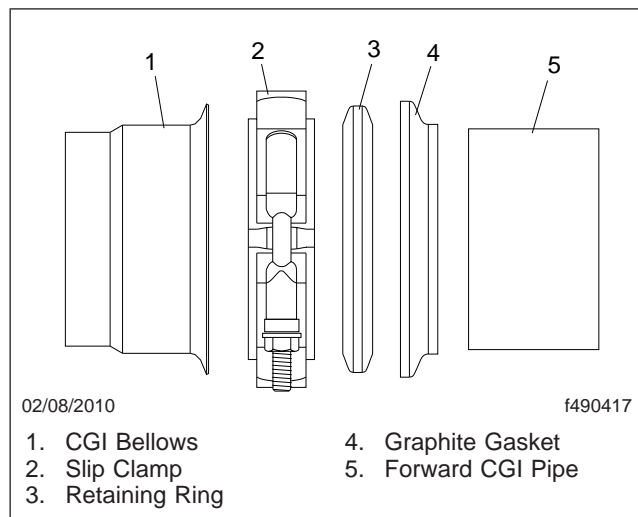

Fig. 5, Forward Facing Slip Clamp Installation
13. Install the slip clamp with the retaining ring and graphite gasket ring onto the forward CGI pipe. See Fig. 5 for proper installation.